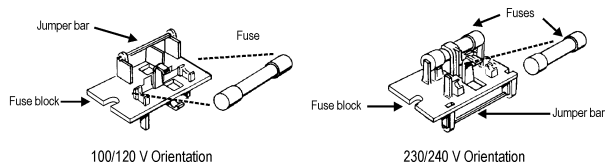

Figure 6. Fuse block orientation for 100/120 VAC and 230/240 VAC operation.
The power entry module accommodates two fusing arrangements, as illustrated in Figure 6.
- Change or add the correct fuses as necessary, referring to Figure 6. Refer to the instrument rear panel for the correct fuse electrical current rating.